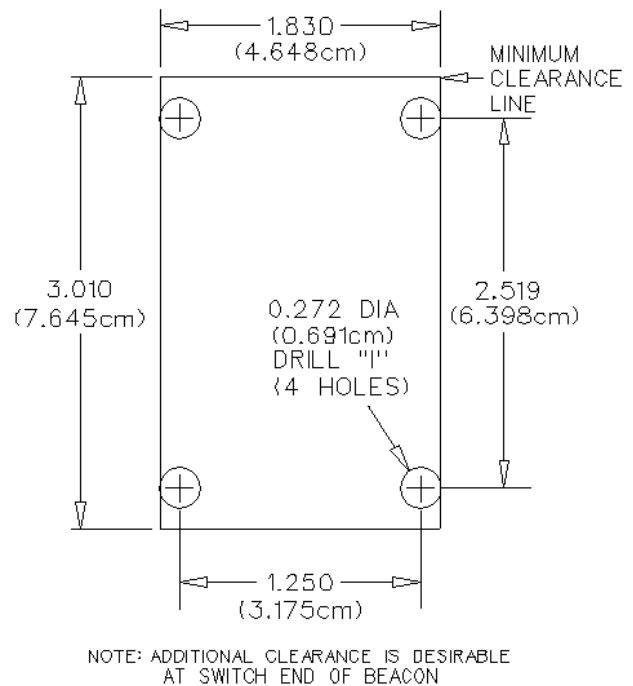

Figure 11. Mounting Hole Template for N30A21A Mounting Kit
- A. Lay out four holes as shown in Figure 11. Position mounting kit carefully to avoid interference with other structures. Observe the clearances required as shown in Figures 11 and 12, and in established tool and maintenance clearances.
- B. Drill the four 0.272 inch (0.691 cm) (“T” drill) holes in the mounting surface as shown in Figure 11.